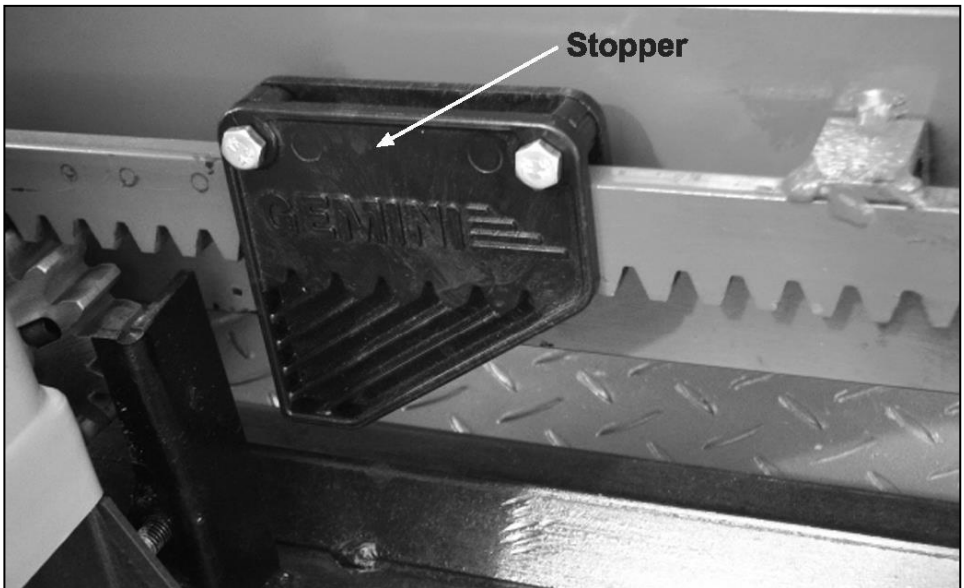

Figure 1
- **Please note that it is mandatory to install stoppers as indicated in figure 1.**
- Mount mechanical stops to one end of loose rack as per drawing. Now position assembly as per figure 1.